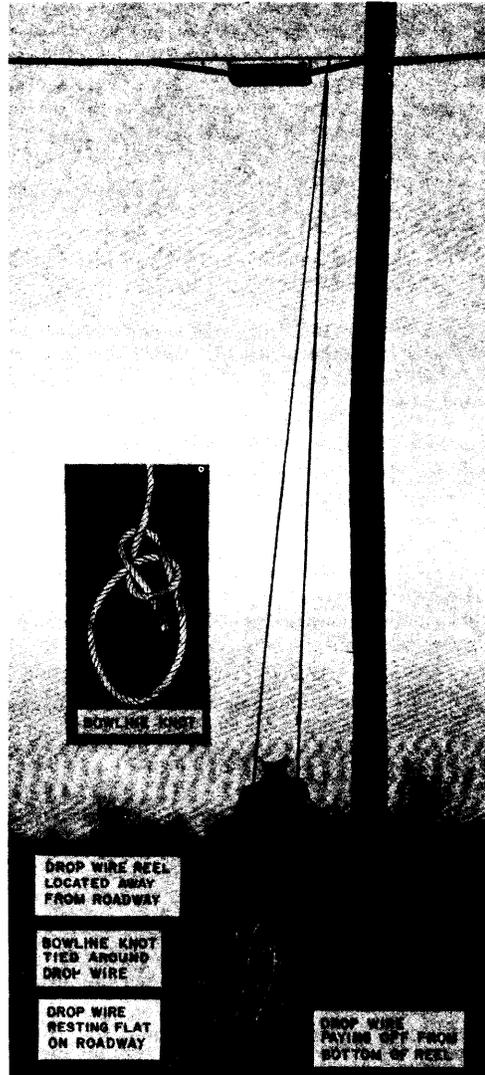

Fig. 14 - Bowline Knot Placed Around Drop Wire
- (e) Release the handline from the base of the pole or ladder. Tie a bowline knot at the end of the handline toward the building and around the drop wire at the reel as shown in Fig. 14. Be careful not to raise the wire on the roadway when securing the rope. Take up any excess wire on the reel.